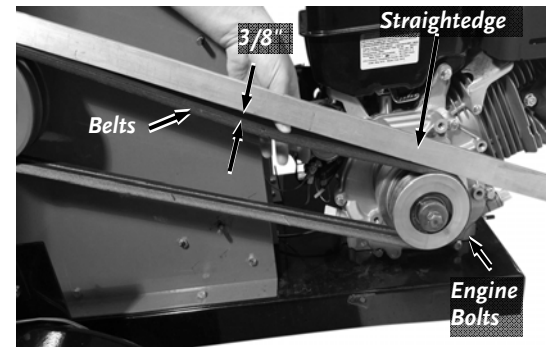

Figure 47
5. Place a Straightedge along the Belt (over the Clutch and Sheave) and push down firmly on the Belt to measure the deflection from the Straightedge to the Belt with a tape measure (**Figure 47**).